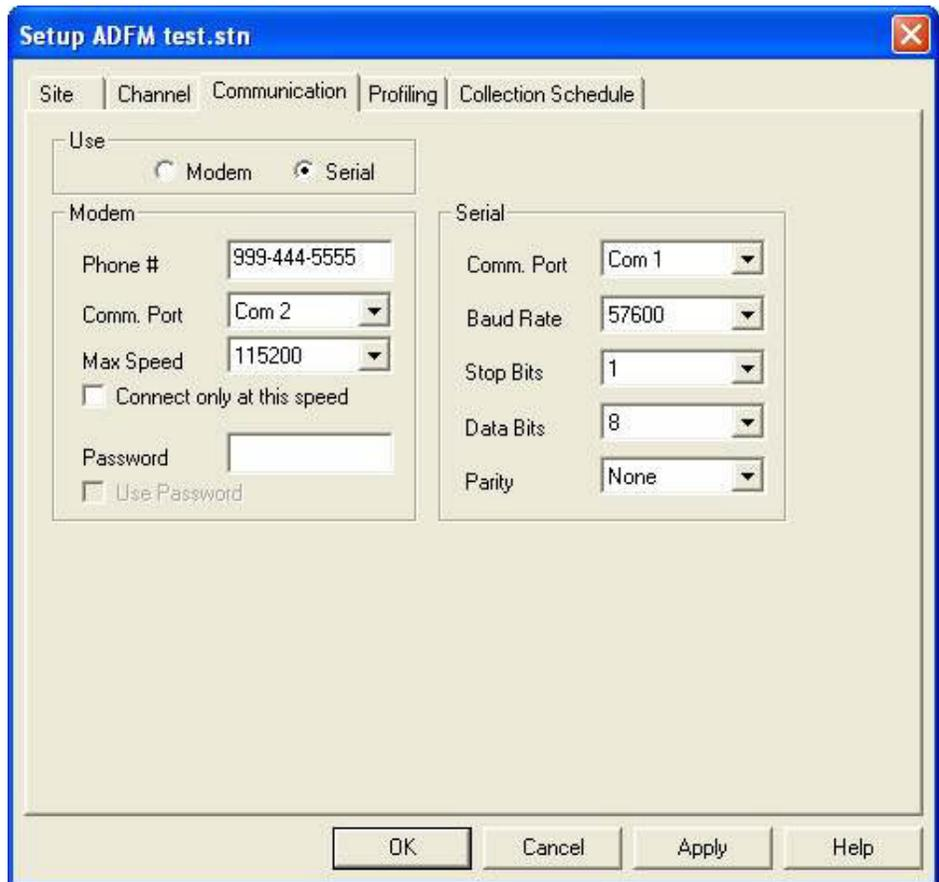

Figure 2-11 Communication tab
9. Communication Tab (Figure 2-11)